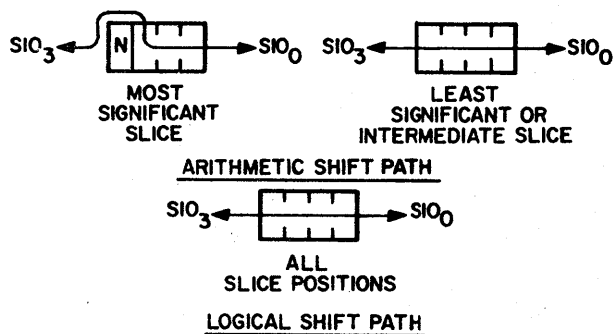

Figure 2. Shift Paths
Under instruction control, the ALU shifter passes the ALU output (F) non-shifted, shifts it up one bit position (2F), or shifts it down one bit position (F/2). Both arithmetic and logical shift operations are possible. An arithmetic shift operation shifts data around the most significant (sign) bit position of the most significant slice, and a logical shift operation shifts data through this bit position (see Figure 2). SIO₀ and SIO₃ are bidirectional serial shift inputs/outputs. During a shift-up operation, SIO₀ is generally a serial shift input and SIO₃ a serial shift output. During a shift-down operation, SIO₃ is generally a serial shift input and SIO₀ a serial shift output.